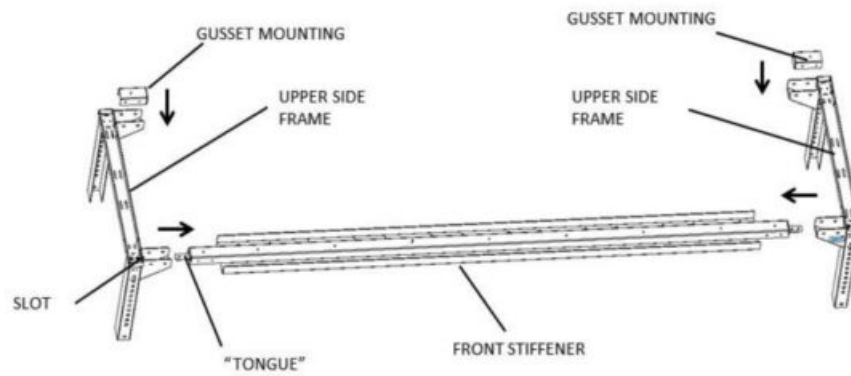
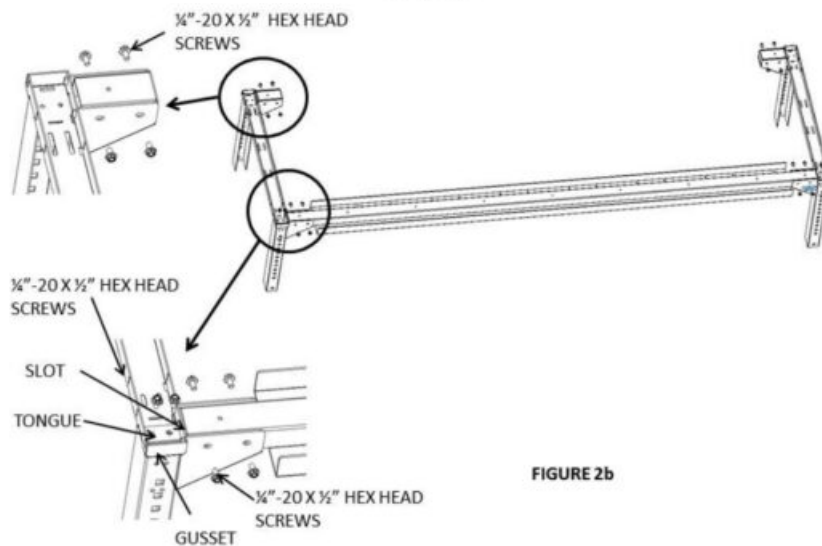

FIGURE 2a
FIGURE 2b
3. Assemble the Stiffener to the Upper Side Frames as shown in figures 2a and 2b. Slide the "tongue" at the end of the Stiffener into the slots on the top of the Upper Side Frames. Align the holes in the tongue with the holes in the top of the frame and secure using two 1/4"-20 x 1/2" long hex head screws. See figure 2b. Secure the gusset to the Stiffener using four 1/4"- 20 x 1/2" long hex head screws.